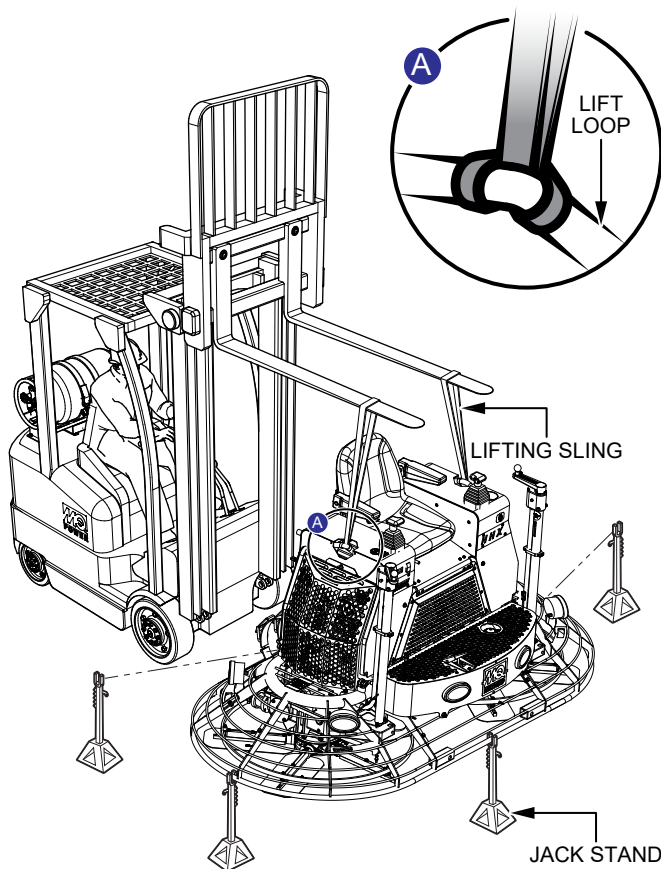
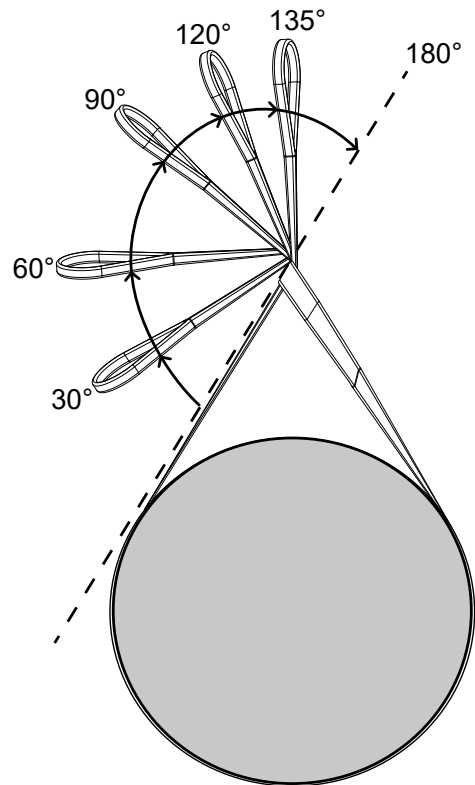

Figure 2. Lifting the Trowel
Figure 3. Choke Angle
1. Secure two lifting slings to the lift loops located on the left and right side of the trowel (Figure 2).
2. Insert forklift forks through the loops at the ends of the lifting slings (Figure 2). Keep the slings as close to vertical as possible. If the choke angle (Figure 3) is 120 degrees or less, the lifting strength of the slings must be de-rated as shown in Table 2, in accordance with ASME Standard B30.9.
3. Place the trowel on heavy-duty jack stands (Figure 2) on secure, level ground in an area that is free of dirt and debris.